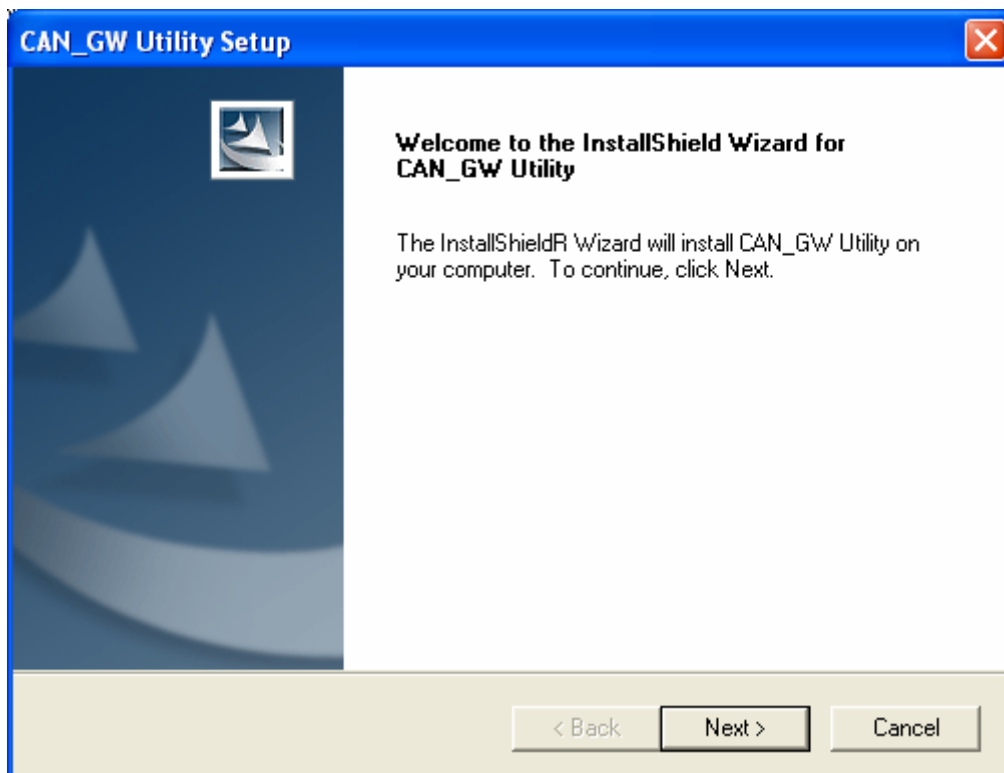

Fig 5-2. Welcome dialog
Step 3: A “Welcome” window pops up to prompt user as Fig 5-2 shown.